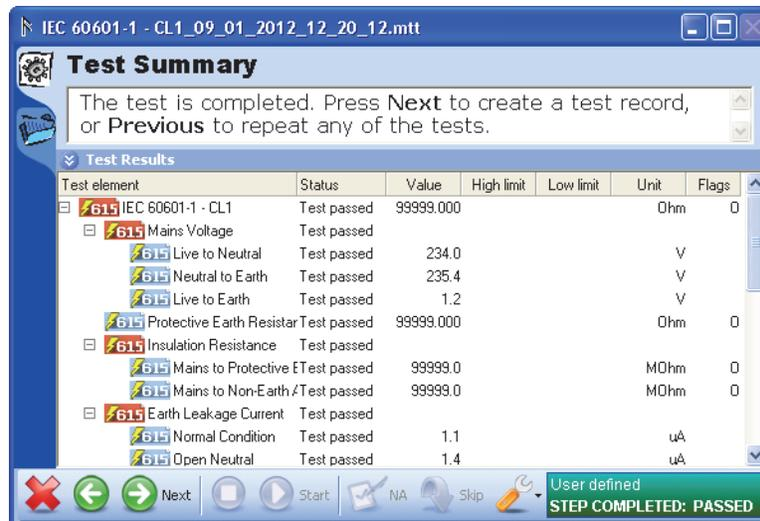

Figure 6-12. Summary Test Window
- Click the **Next** button (→) to show the test summary window in Figure 6-12.